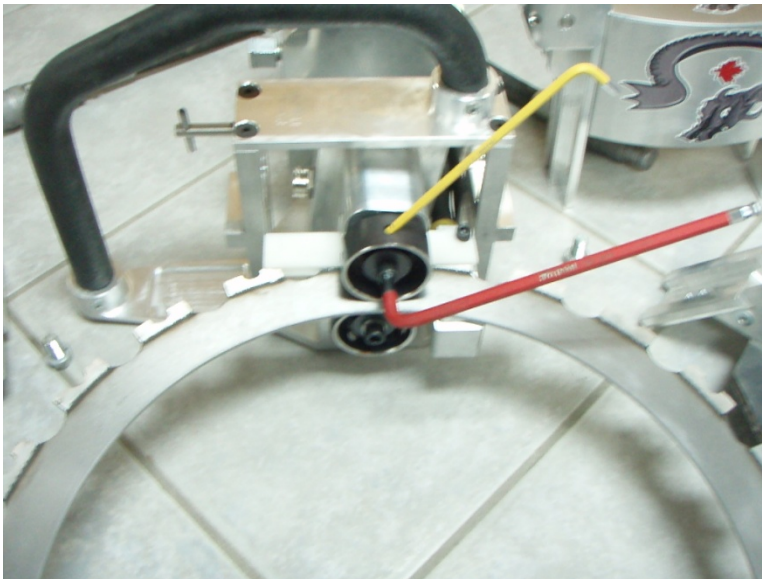

Figure 4
Step 4: Disassemble upper drive roller by locking roller and removing allen screw with the 1/4" allen wrench provided (figure 4).